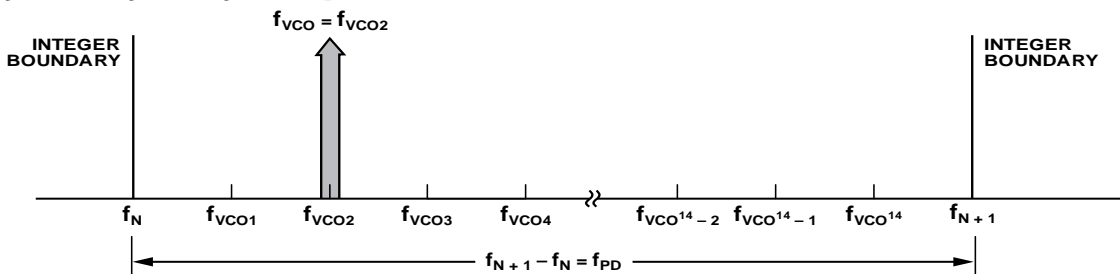

Figure 46. Exact Frequency Tuning
f_{VCOk} is the channel step frequency where $0 < k < 2^{14}-1$, as shown in Figure 46.
(the denominator or the modulus of the Δ - Σ modulator) so that the Δ - Σ modulator phase accumulator repeats at an exact period related to the interval frequency ($f_{VCOk} - f_{VCO(k-1)}$) in Figure 46. Consequently, the shortened accumulator results in more frequent repeating patterns and as a result often leads to spurious emissions at multiples of the repeating pattern period, or at harmonic frequencies of $f_{VCOk} - f_{VCO(k-1)}$. For example, in some applications, these intervals might represent the spacing between radio channels, with the spurious occurring at multiples of the channel spacing.
When multiple, equally spaced, exact frequency channels are needed that fall within the same interval (that is, $f_N \leq f_{VCOk} < f_{N+1}$) where f_{VCOk} is shown in Figure 46 and $1 \leq k \leq 2^{14}$, it is possible to maintain the same integer-N (Register 0x03) and exact frequency register (Register 0x0C) settings and only update the fractional register (Register 0x04) setting. The exact frequency channel mode is possible when Equation 16 is satisfied for at least two equally spaced adjacent frequency channels, that is, the channel step size.
To configure the HMC832 for exact frequency channel mode, initially and only at the beginning, the integer (Register 0x03) and exact frequency (Register 0x0C) registers need to be programmed for the smallest f_{VCO} frequency (f_{VCO1} in Figure 46), as follows:
1. Calculate and program the integer register setting Register 0x03 = $N_{INT} = \text{floor}(f_{VCO1}/f_{PD})$, where f_{VCO1} is shown in Figure 46 and corresponds to the minimum channel VCO frequency. Then, the lower integer boundary frequency is given by $f_N = N_{INT} \times f_{PD}$.
where $f_N = \text{floor}(f_{VCO1}/f_{PD})$, and f_{VCO1} , as shown in Figure 46, represents the smallest channel VCO frequency that is greater than f_N .
4. To change from Channel 1 ($f_{VCO1} = 2800.2$ MHz) to Channel 2 ($f_{VCO2} = 2800.3$ MHz), only Register 0x04 needs to be programmed, as long as all of the desired exact frequencies, f_{VCOk} (Figure 46), fall between the same integer-N boundaries ($f_N < f_{VCOk} < f_{N+1}$). In that case,